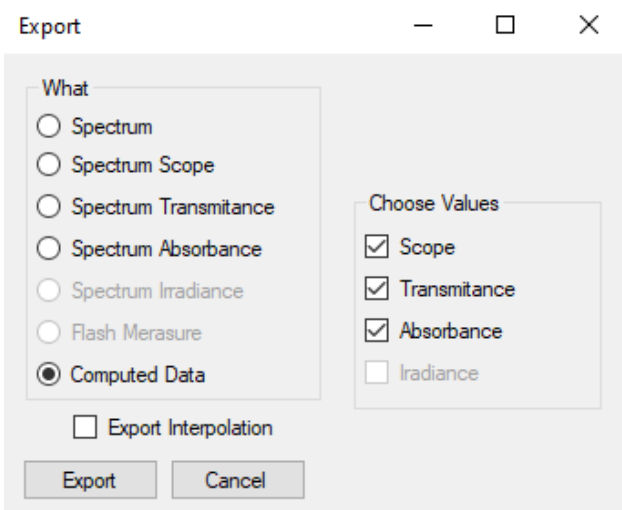

Fig. 30 Export of computed values.
- **Computed Data** (Fig. 30) – export of the calculated values from Scope, Transmittance or Absorbance spectra of all of the measurements. SP 110 does not contain default formulas for calculated values. This feature exports calculations based on user's predefined formulas. More in chapter 10.1.